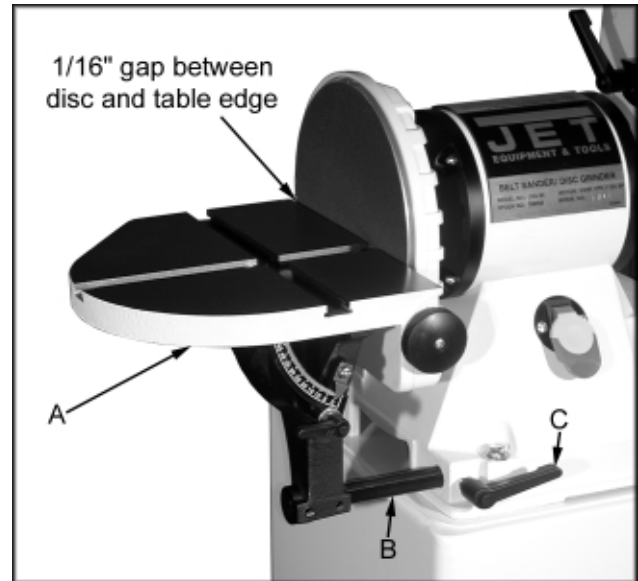

Fig. 1
2. Mount the sanding disc table assembly (A, Fig. 1) to the sander base. Insert the rod (B, Fig. 1) into the base and secure in place using the handle with the brass insert (C, Fig. 1). The handle should tighten against the flat portion of the rod.